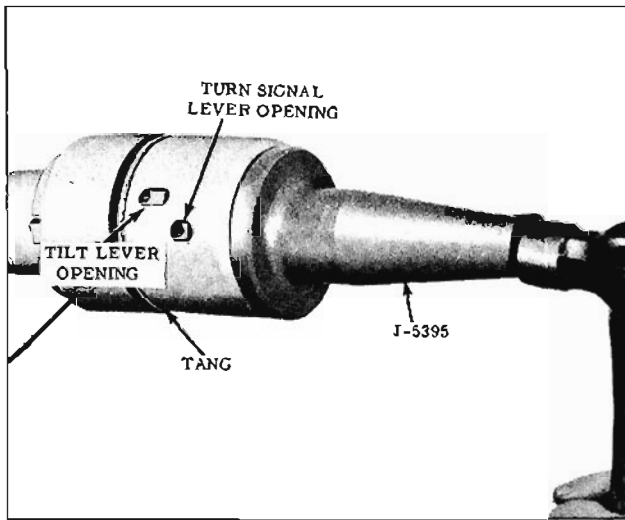

Fig. 8-118 Installing Turn Signal Cover
3. Install the turn signal cover with Tool J-5395, pinion seal installer, aligning the openings for the tilt and turn signal levers, and with the small tang on the lower edge of the cover in line with the groove in the actuator housing. (Fig. 8-118)